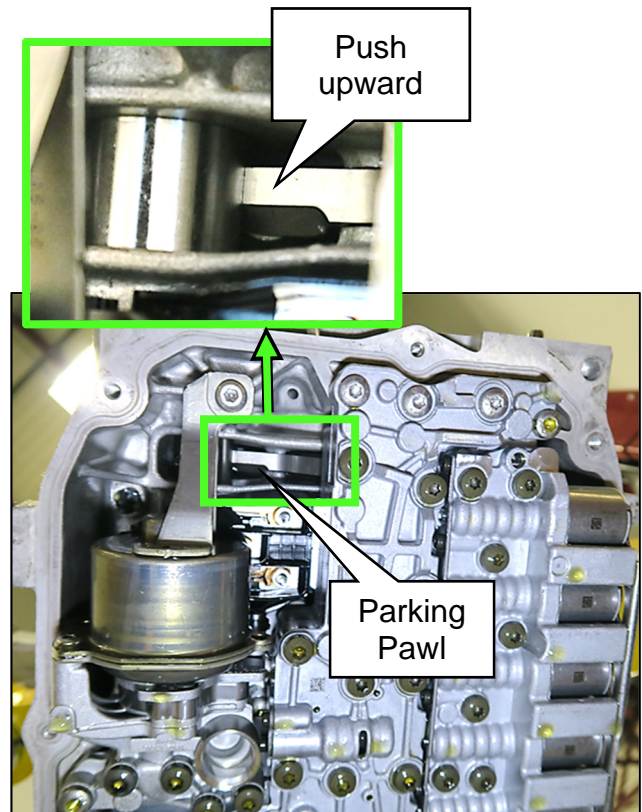

Figure 18
16. Push upward on the Parking Pawl at the location shown in Figure 18.